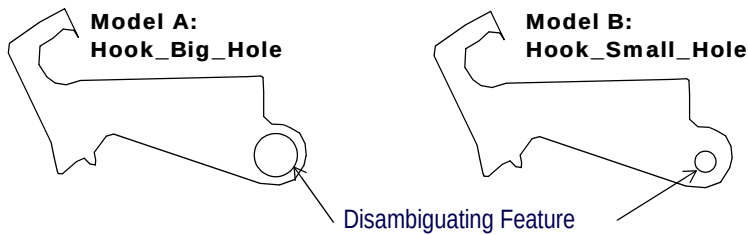

Figure 150 Using Discriminating Features to Distinguish Between Similar Objects
- The Locator automatically uses disambiguating features to distinguish between several similar Models. The example in Figure 150 shows two “hook” objects that are identical except for the size of the circular hole at each end, which in this example is the *only* discriminating feature.